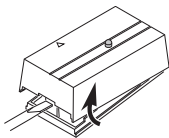
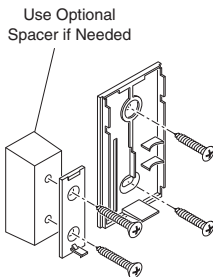

Figure 2
Figure 5
2. **Remove orange battery tab from sensor.** Remove back of case by pushing in tab on bottom with a small screwdriver (see Figure 2). Remove orange battery tab.
- **Screw Mounting:** Remove back of case by pushing in tab on bottom with a small screwdriver (see Figure 2). *Note:* Remove material in screw holes (if needed) before mounting with screws. Attach sensor back cover to wall using two short screws (see Figure 5). Snap sensor onto back cover.